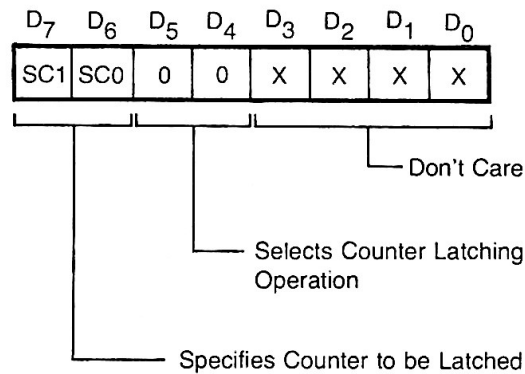

Figure 3-9. PIT Counter Register Latch Control Word Format
- a. Write counter register latch control word (Figure 3-9) to port base+3. The control word specifies the desired counter and selects the counter latching operation.